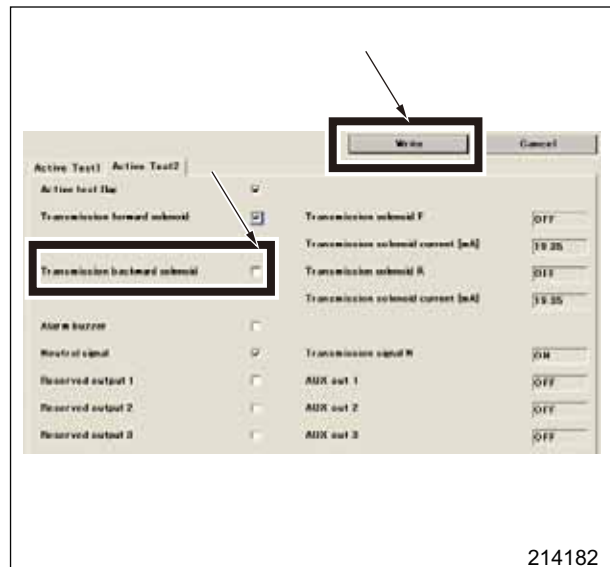

Fig. 2-10 Active test check screen
- (5) Check the box of either T/M solenoid F or T/M solenoid R, and press the write button. (Fig. 2-10)
- (6) When the write confirmation dialogue box is displayed, press the YES button the same as (4) above, and when the write completed dialogue box is displayed, press the OK button to complete the set-up.